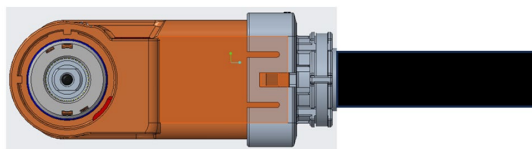

Figure 3 Quick Insert Terminals
- 1.1 The AC side of the power module is N-type orange, the positive electrode of DC side is A-type orange, and the negative electrode is B-type black, as shown in Figure 3 below;